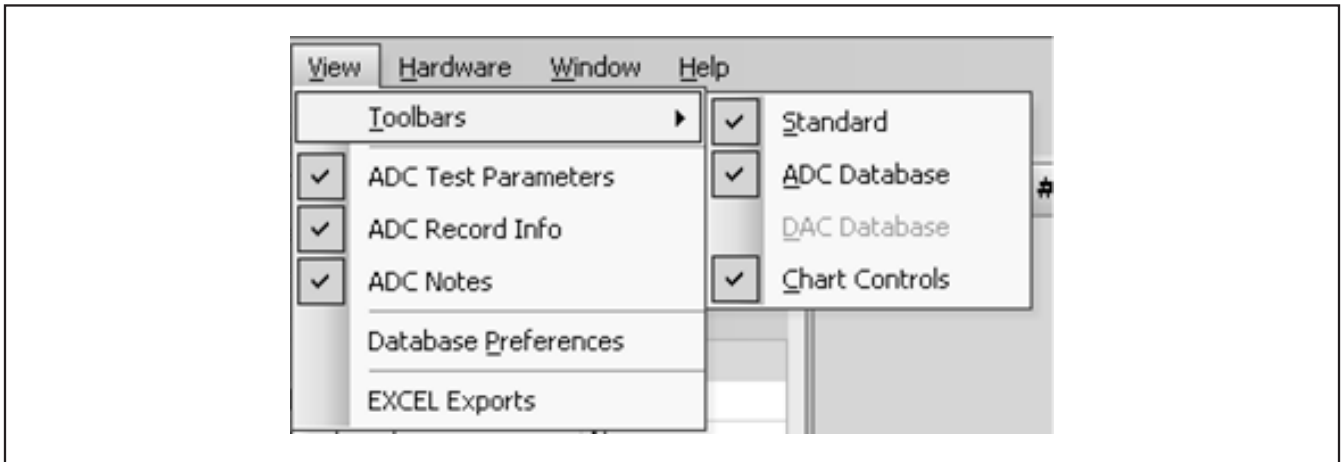

Figure 15. View Menu Options
**View Menu Options:** The **View** menu item (Figure 15) provides several options for configuring the workspace. Options are available to activate the various toolbars, workspace windows, database options, and Excel export options. The **Database Preferences** and **EXCEL Exports** options will be of primary interest to the user.